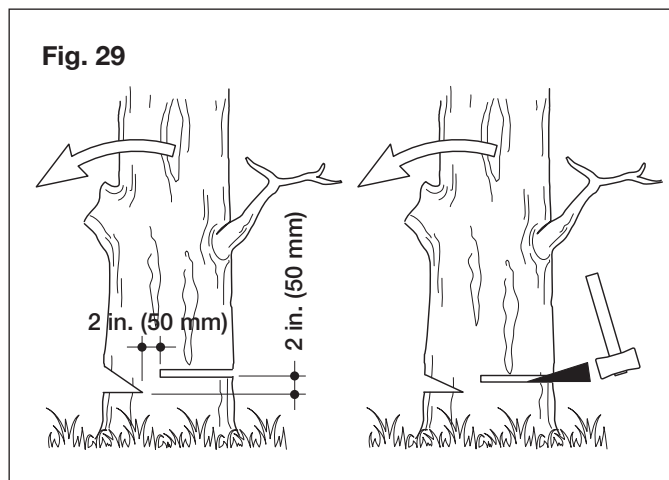

Fig. 29
Make the notch 1/3 the diameter of the tree, perpendicular to the direction of falls as illustrated (Fig. 29).
- Make the felling back cut at least 2 in. (50 mm) higher than the horizontal notching cut as illustrated (Fig. 29). Keep the felling back cut parallel to the horizontal notching cut. Strategically position the felling back cut so that enough wood is left to act as a hinge. The hinge wood keeps the tree from twisting and falling in the wrong direction. Do not cut through the hinge.